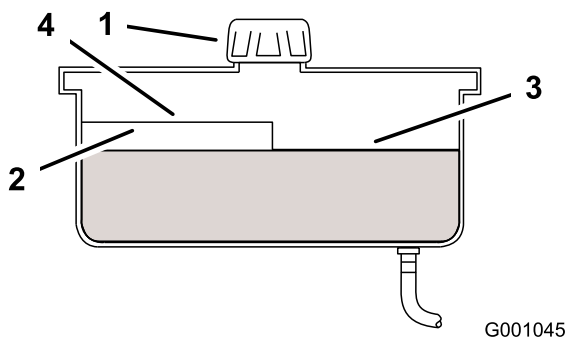

Figure 47
4. Clean area around cap and filler neck of hydraulic tank (Figure 47).
5. Remove cap from filler neck. Look inside to check the fluid level in the reservoir. (Figure 47).
Note: The fluid level should be to the top of the hot level of the baffle, when the fluid is warm (Figure 47).